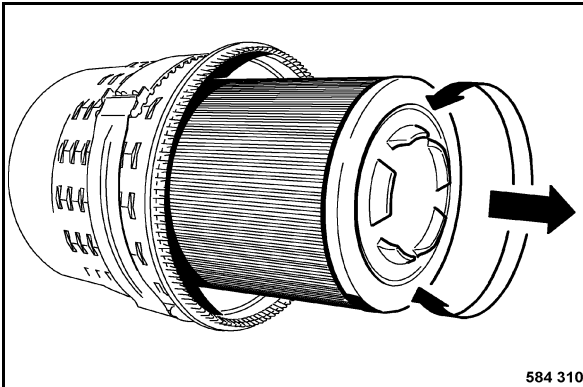

Fig. 188
- Pull out the main filter element (Fig. 188) with light turning movements.